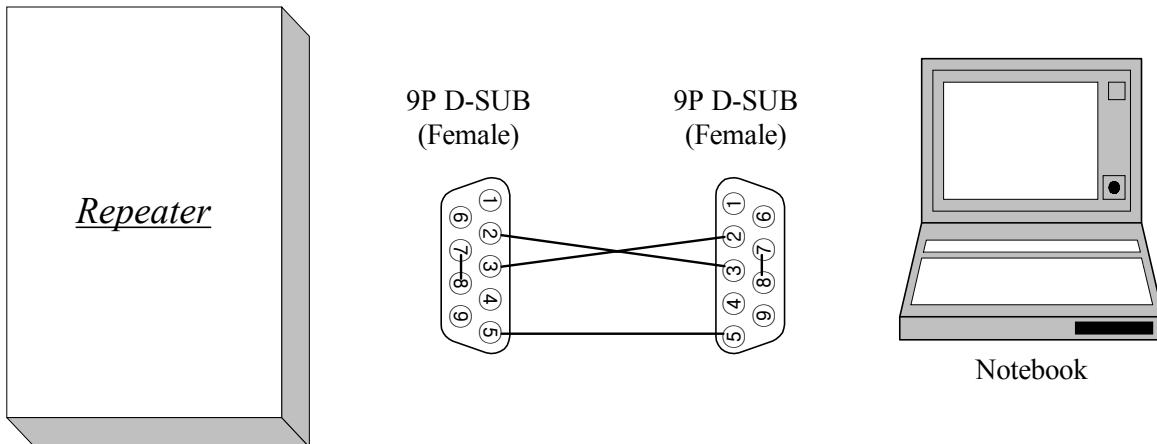

Figure 8 NMS Connection Diagram
- Serial Cable: Twisted 9 pin Female-to-Female (refer to Figure 8.)